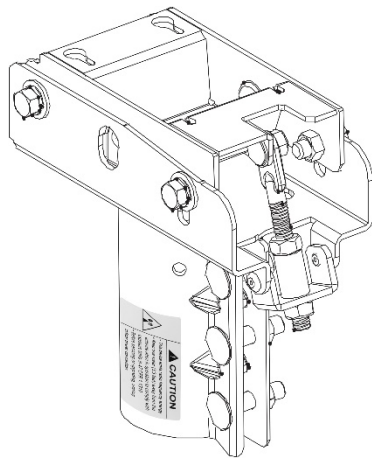

Figure 37: Installing the radiation hazard caution label
- Orient and align the label as shown in Figure 37.